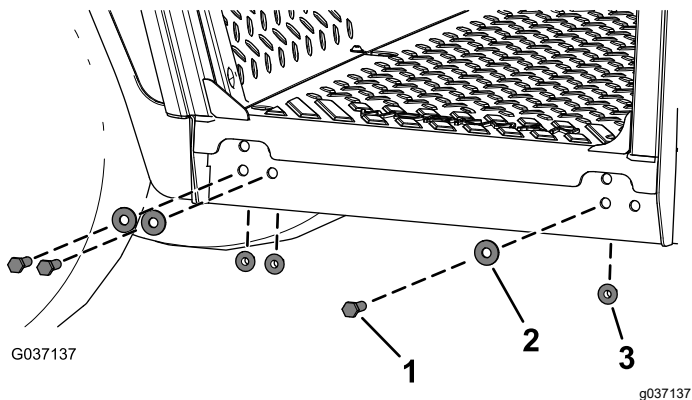

Figure 12
- Secure the sides of the cab frame to the machine using 6 hex-head bolts (3/8 x 1-1/4 inches), 6 washers (3/8 inch), and 6 flange nuts (3/8 inch) as shown in Figure 12.